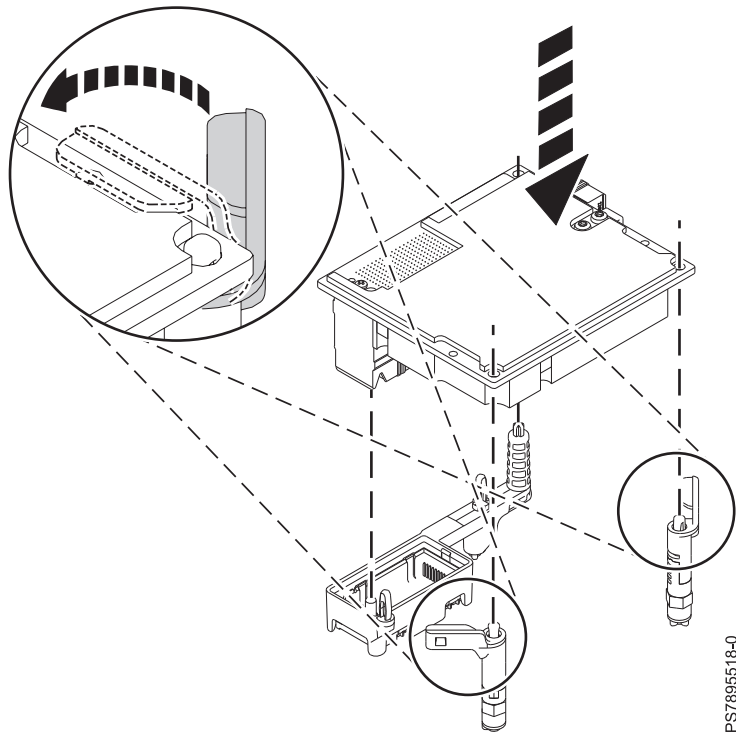

Figure 21. Installing a network adapter on its connector
5. Make sure that the slot’s two blue release tabs are in the open position, as indicated in Figure 21 on page 50.